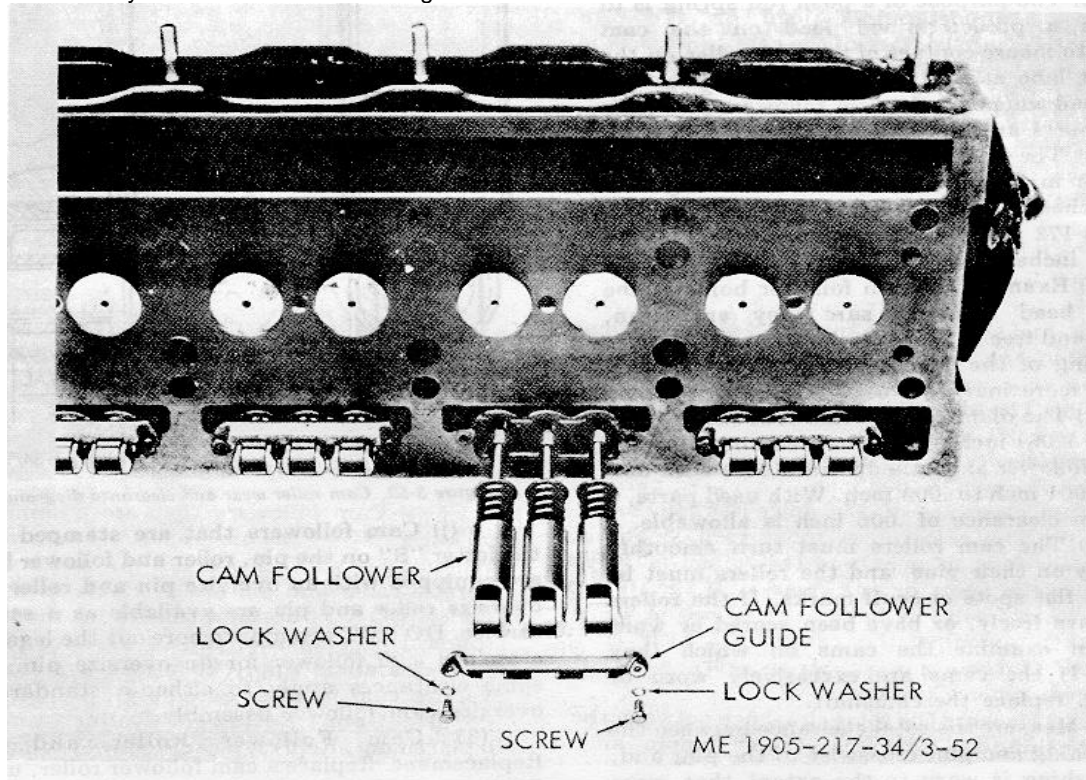

Figure 3-52. *Cam follower and guide, removal and installation.*
(a) Rest the cylinder head on its side, as shown in figure 3-52, and remove the two bolts that secure the cam follower guide to the cylinder head. Remove the guide.
- (b) With the spring seat retainer in place in the cylinder head, slide the push rod and spring assembly into position from the bottom of the cylinder head (fig. 3-52).